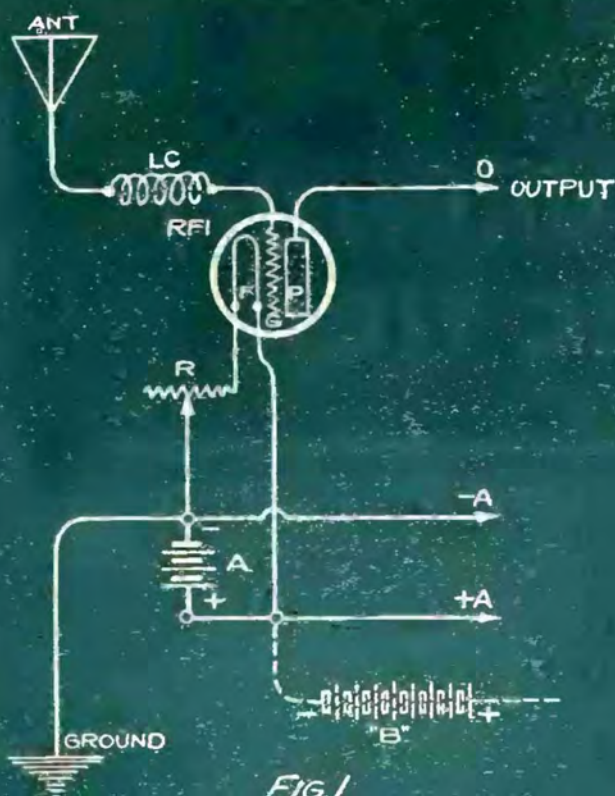

FIG. 1
ONE of the simplest radio frequency stages employed is the "Aperiodic" or "Untuned" type of stage shown in Fig. 1 of the Blueprint Section. In this case, the radio frequency tube (RF1), is connected directly to the antenna and ground with the grid (G) going to the antenna without any attempt at tuning. When connected in this way, all wavelengths are amplified indiscriminately within the range of the circuit constants and the selectivity of the stage of course is zero. All tuning controls must be included in the following radio stages, if any, or in the detector circuit which follows the tube (RF1). The output of